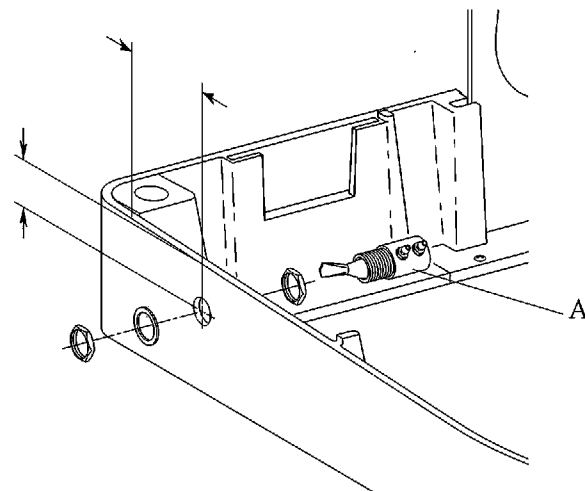

Figure 42. Master toggle location. (A) master toggle
2. Install the master toggle assembly using a nut on each side of the frame and a washer between the nut and the frame on the outside (see Figure 42).